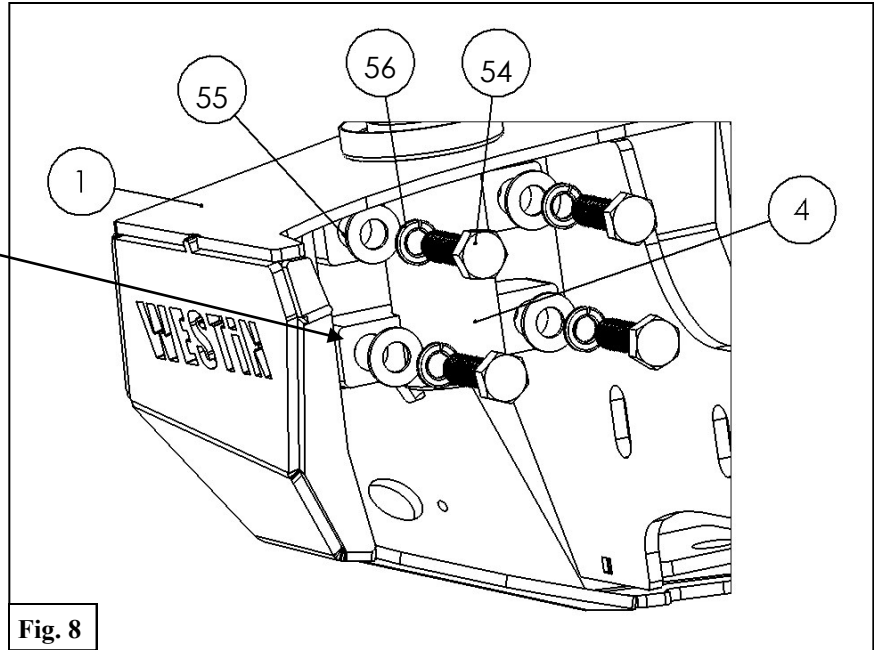

Fig. 8
*Note: Bumper will slide over the frame rail and will use the supplied Nut Plates (3) and factory Nut Plates.*
9. Install the spindle (4) onto the bumper using the supplied M12 Hardware. See **Figure 8**. *Note— do not fully tighten at this time.* \*This step is only taken for 59-82035 **Important: Use the Class 10.9 Hardware & thick washers to mount the spindle.**